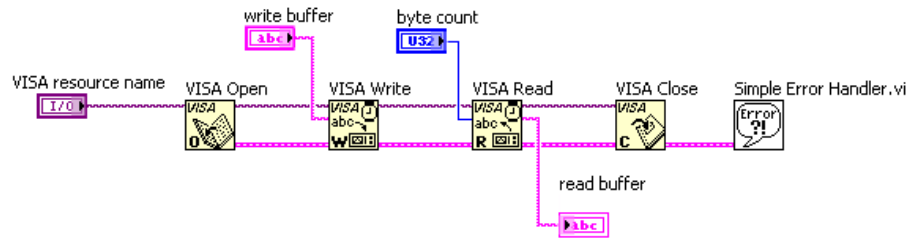

Figure 11.7
1. Build the block diagram shown in Figure 11.7.